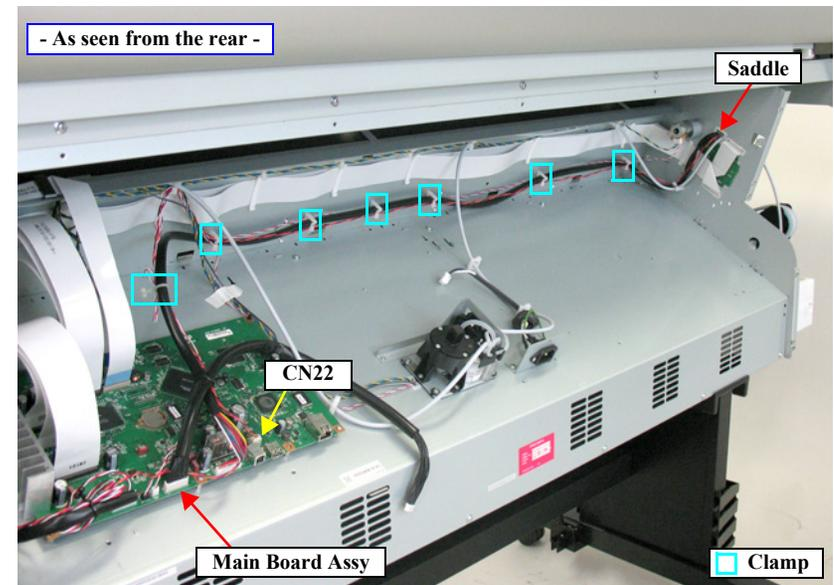

Figure 4-37. Releasing the harnesses
8. Release the cables from the seven clamps and the saddle. See Figure 4-37.